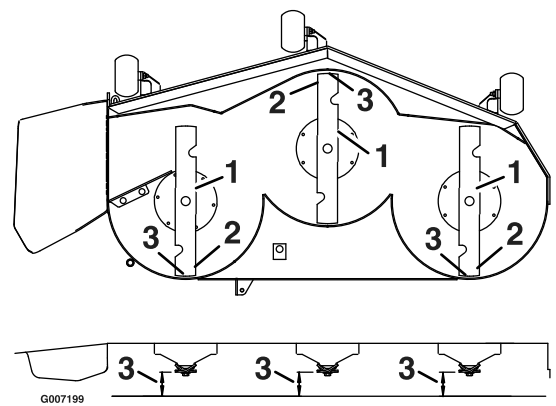

Figure 63
3. Carefully rotate the blades so they are facing front to rear (Figure 63).
4. Measure from the tip of the front blade to the flat surface and the tip of the rear blade to the flat surface (Figure 63).